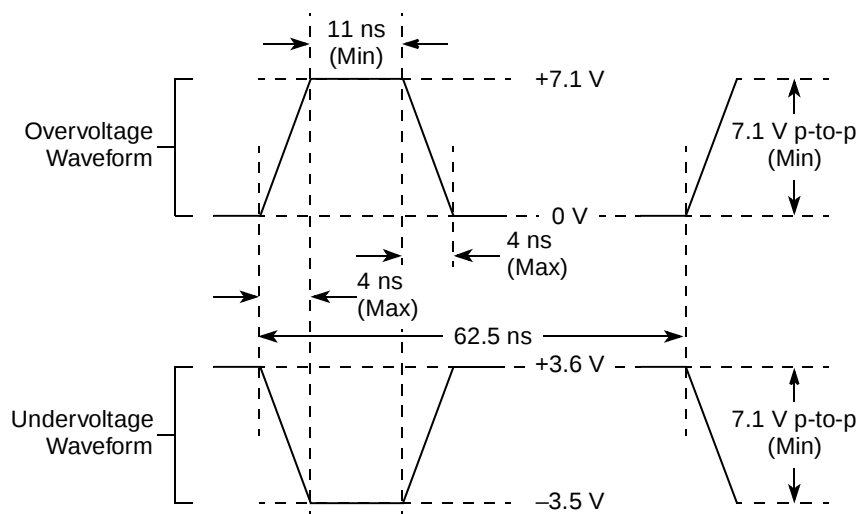

Figure 3. Maximum AC Waveforms on PCI Interface for 3.3-V Signaling
- ⁶ OV_{IN} on the PCI interface can overshoot/undershoot according to the PCI Electrical Specification for 3.3-V operation, as shown in Figure 3.
Figure 3 shows the undershoot and overshoot voltage of the PCI interface of the MPC8349E for the 3.3-V signals, respectively.